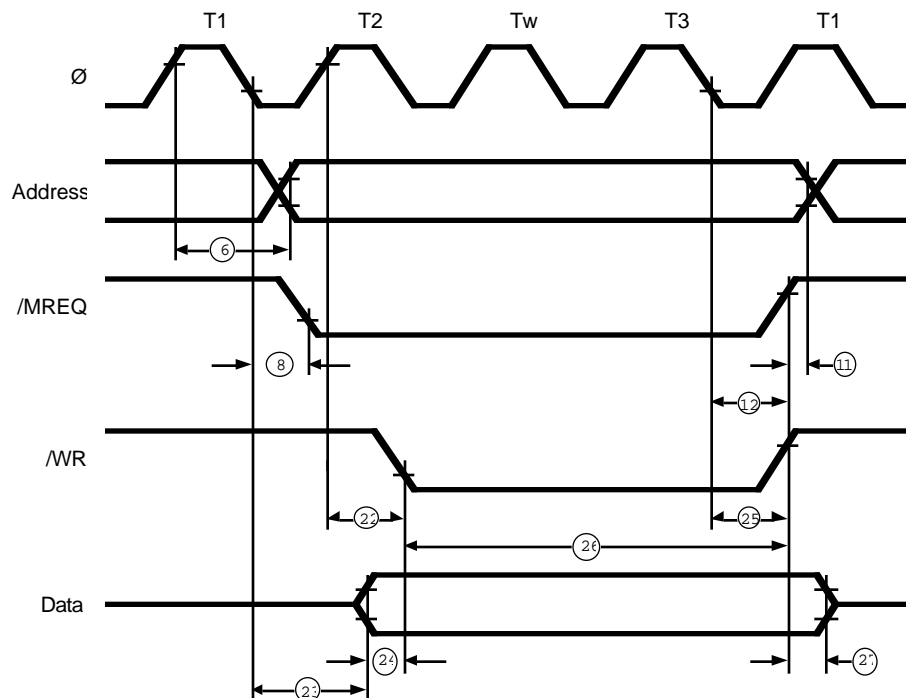

Figure 3. Z180 Memory Write Cycle Timing (One Wait State)
- Memory write cycle (Figure 3)